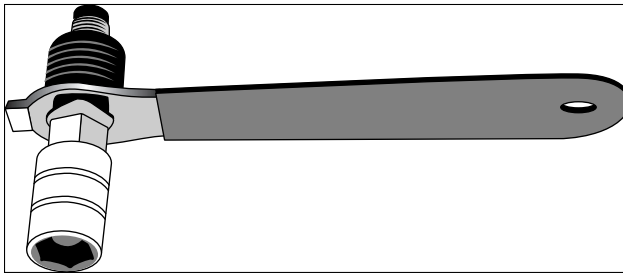

Figure 3-7: A
- ✔ **Crank puller (see Figure 3-7):** Many bikes require this special tool, which threads into the crank to pull it off the bottom bracket. In these situations, you'll also require a socket set or a dedicated crank bolt tool (usually 14mm or 15mm).